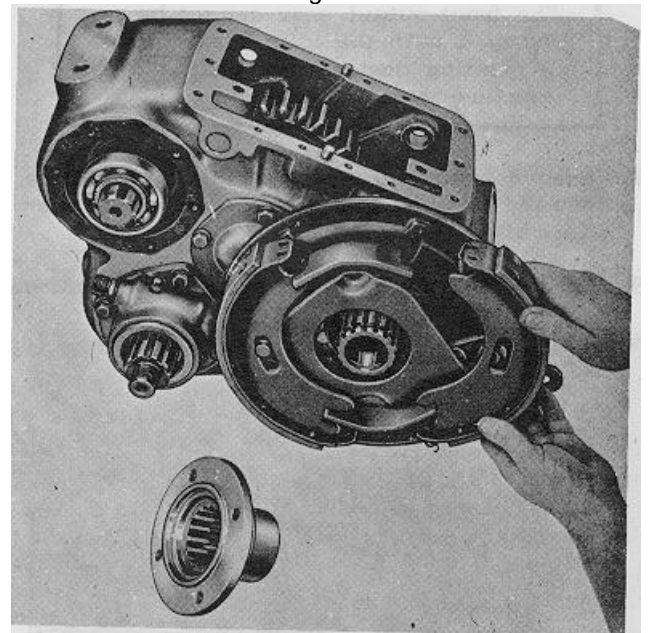

Fig. 10.
15. Unhook brake shoe return springs; remove brake shoes and lever (Fig. 10).